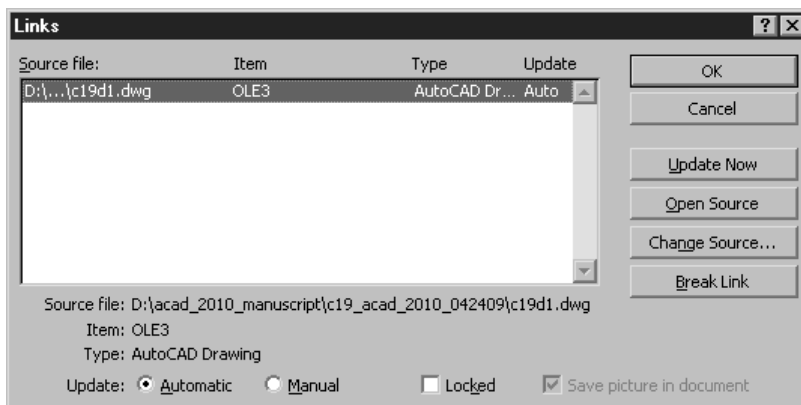

Figure 21-17 The **Links** dialog box
7. You will notice that the drawing is automatically updated, and the changes made in the source drawing are present in the destination drawing also. This automatic updating is dependent on the selection of the **Automatic** radio button (default) in the **Links** dialog box (Figure 21-17). The **Links** dialog box can be invoked by choosing **Links** from the **Edit** menu of the Word application. For updating manually, you can select the **Manual** radio button in the dialog box. In the manual case, after making changes in the source document and saving it, you need to invoke the **Links** dialog box and then choose the **Update Now** button. This will update the drawing in the container application and display the updated drawing in the MS Word document.